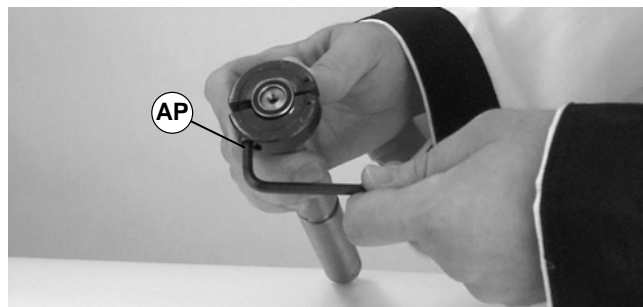

Figure 26
2. Using 3/16" hex key wrench (AP of Figure 26), tighten tool.